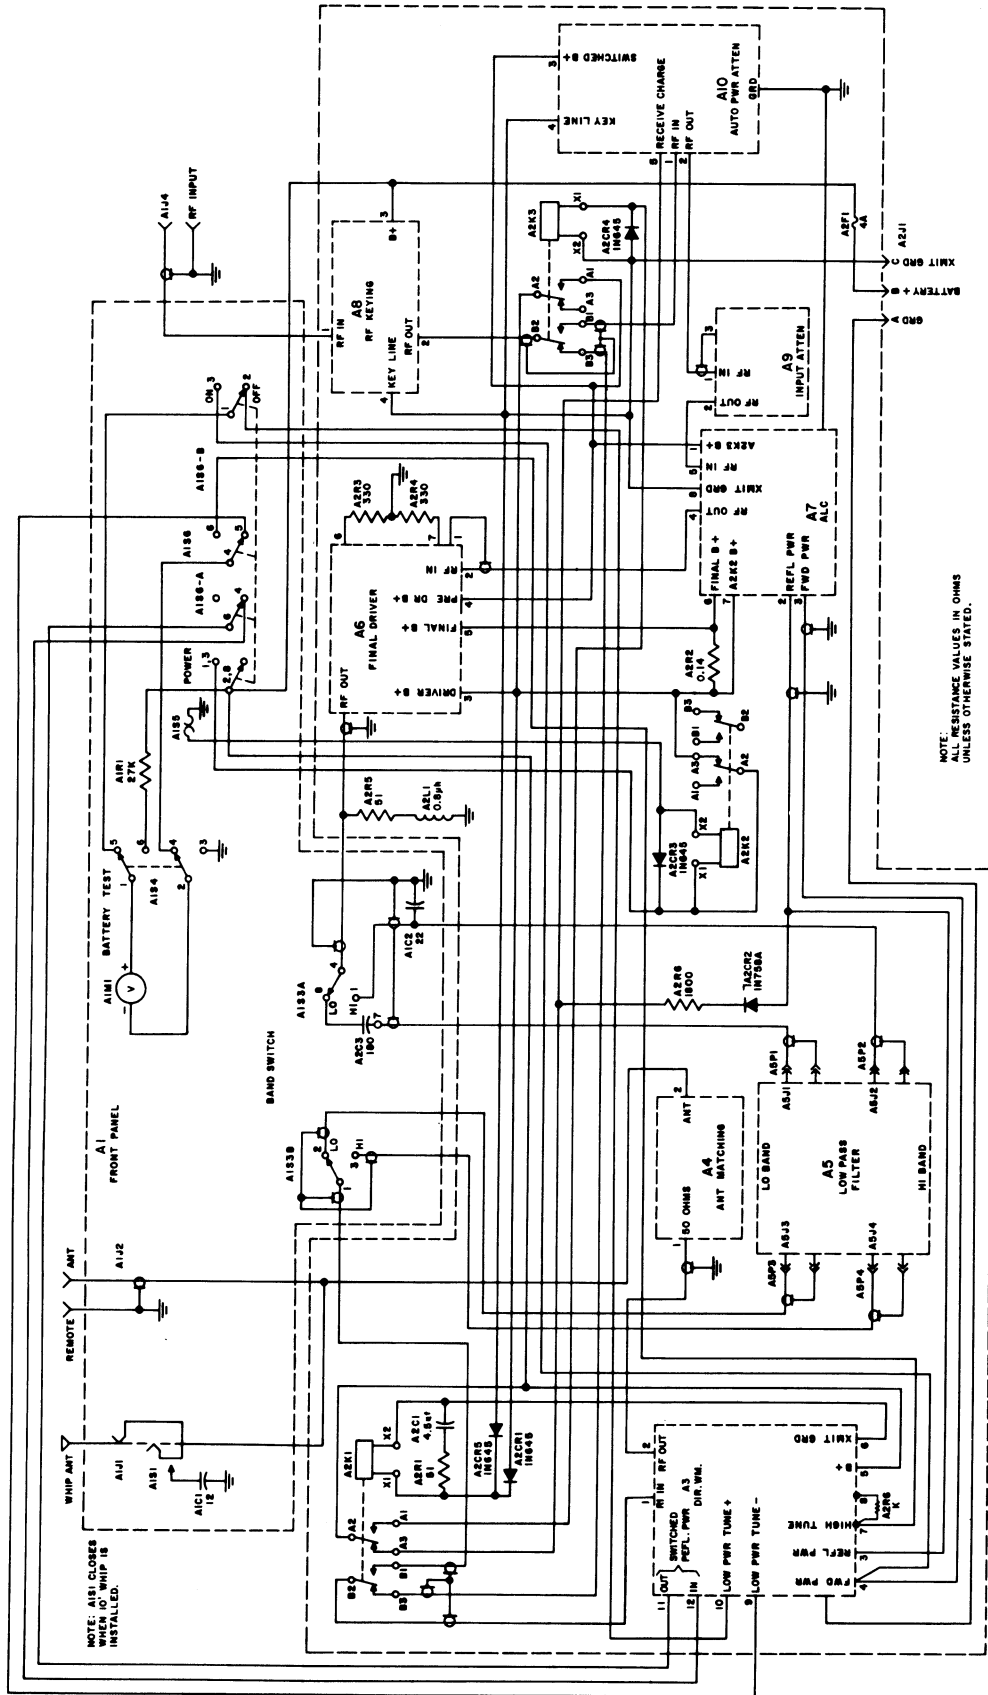

Figure 2-11. Front panel A1 and chassis A2 wiring schematic diagram
- (3) Final Amplifier B+. Resistor A2R2 (fig. 2-11) is in series with the final amplifier B+ and a rise in current flow through A2R2 above the value set by A7R4 causes a change in base-to-emitter voltage of A7Q1, allowing A7Q1 to conduct. The change in collector voltage of A7Q1 is applied at the base of A7Q2, causing increased conduction of A7Q2. This in turn causes A7Q3 to conduct heavier. Finally, A7Q4 conducts heavier, resulting in increased current through A7DS1 and a corresponding increase in bridge attenuation. The increased attenuation decreases the power input to the driver-final module A6. The value of A2R2 is 0.14 ohm to insure that no significant voltage drop of the battery will be incurred.
(fig. 2-11)